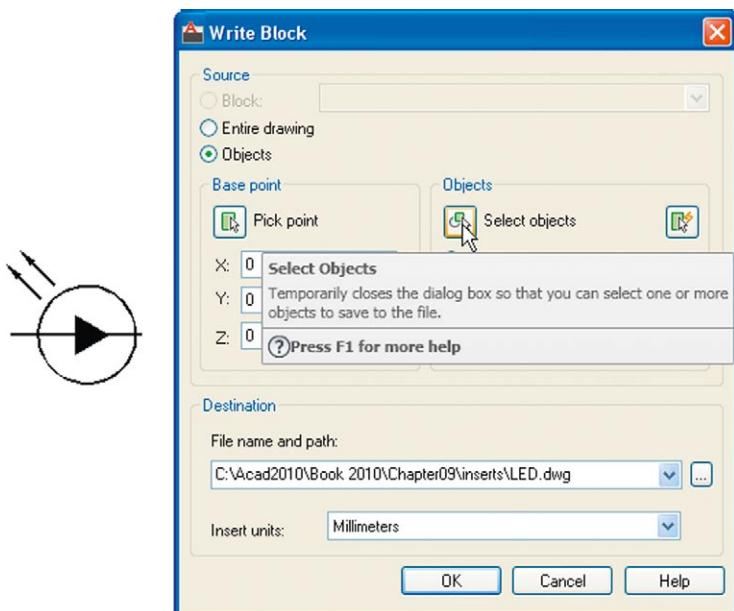

Fig. 9.19 Example – Wblock
Example – wblock (Fig. 9.19)
1. Construct a light emitting diode (**LED**) symbol and *enter w* at the command line. The **Write Block** dialog appears (Fig. 9.19).